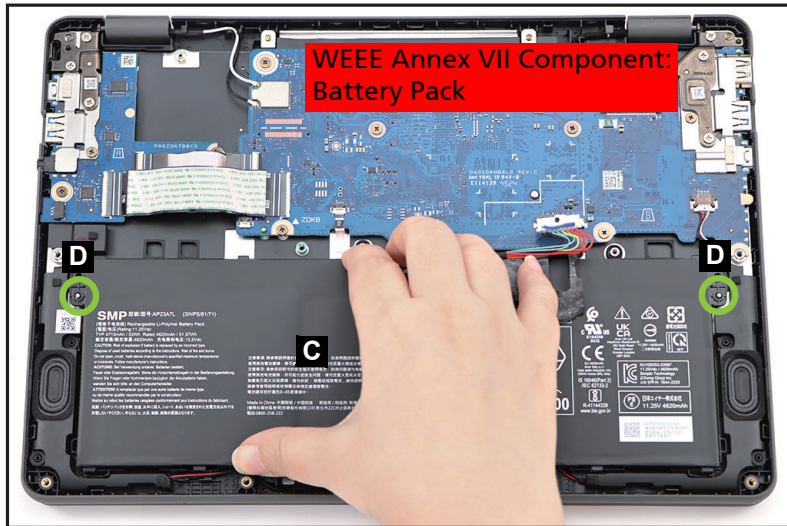

Figure 3-8. Battery Pack Removal
3. Lift to release the battery pack (C) from the guide pins (D) (Figure 3-8). Then remove the battery pack from the top assembly.